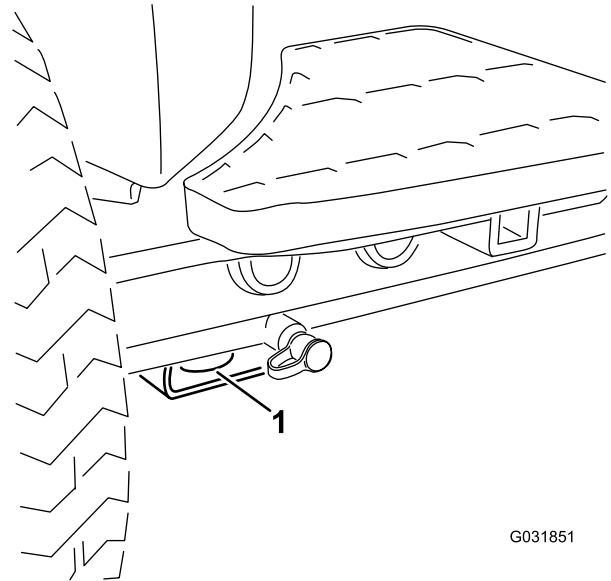

Figure 22
- **Front of the machine**—the hole in the rectangular pad, under the axle tube, inside each front tire (Figure 22).